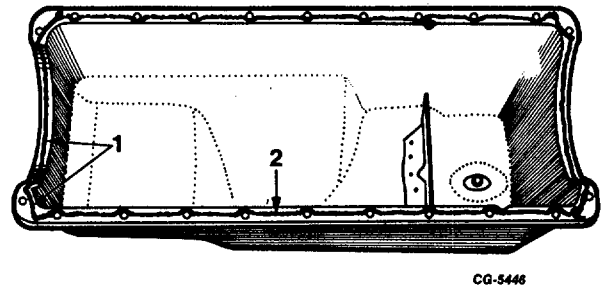

Fig. 154 Application of Liquid Gasket Material on Oil Pan
54. Install oil pan on crankcase using the liquid gasket material, Figure 154.